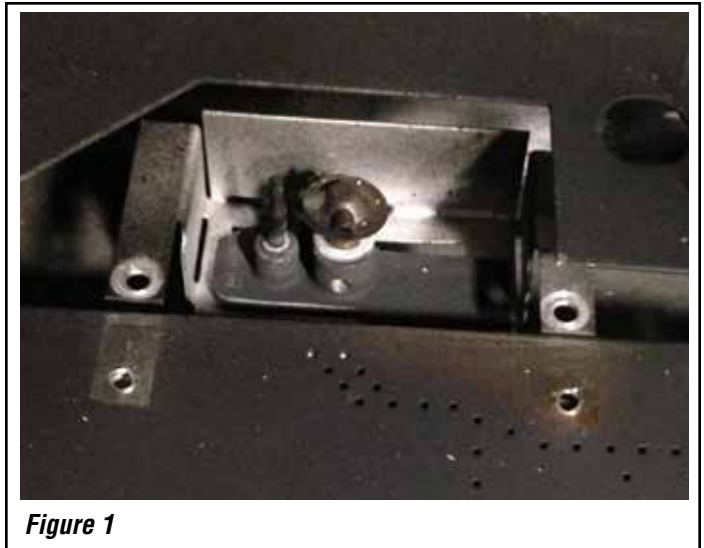

Figure 1
**Step 1.** Remove pilot bracket from burner, before removing the burner, by removing two screws (see *Figure 1*).